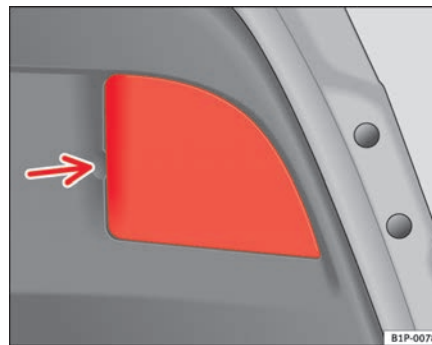

Fig. 167 Lights on the tailgate
- Pull the cover off. See the arrow ⇒ fig. 167. ▶